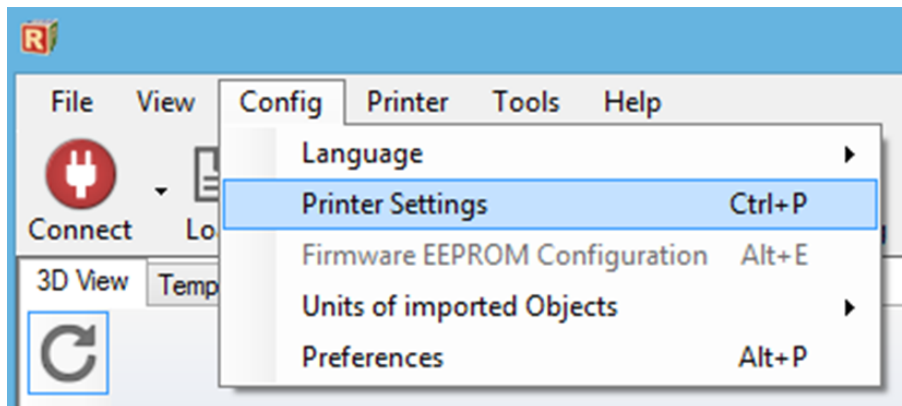

Figure 2.20: Open the Printer Settings
- Open the **Printer Settings** from “Config → Printer Settings” (Figure 2.20).